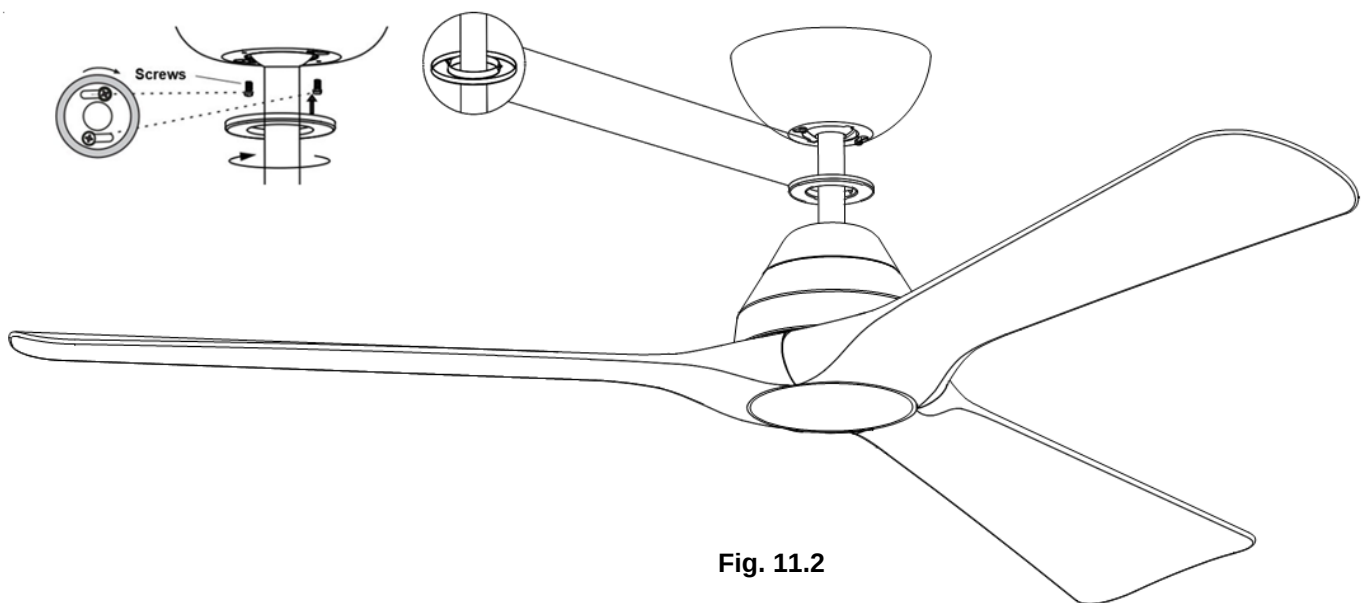

Fig. 11.2
- Slide the canopy up to the mounting bracket and align the key holes on the canopy with the screws on the mounting bracket. Turn the canopy until it locks into place with the narrow section of the key holes and secure it by tightening the two screws. Avoid damaging the electrical wiring prepared previously. (Fig 11.2)
- Slide the canopy cover ring up to the canopy and click in to cover the canopy cover screws. (Fig 11.2)